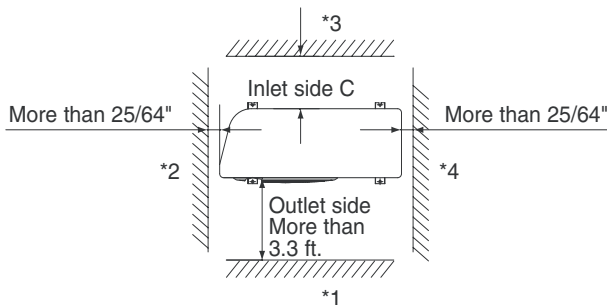
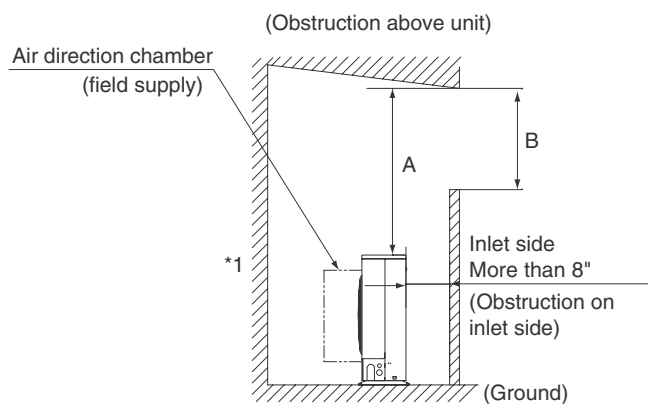

Fig. 1-2
Fig. 1-3
- allow enough room around the unit for air intake/exhaust and possible maintenance. (Fig. 1-2)
- Concerning inlet-side distance "C" (Fig. 1-2)
- If wall *1 is on the outlet side (Fig. 1-2), or if obstructions are present on all 3 sides *2, *3, and *4 (Fig. 1-2), then the minimum distance for "A" and "B" is 80" (Fig. 1-3). Even if there is no wall on the outlet side, a minimum of 3.3 ft. is required.